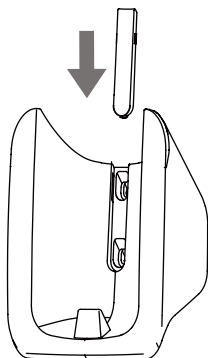

Figure 2.4
2) Slot the screw lid into the bracket cover on top of the screws (see Figure 2.4);